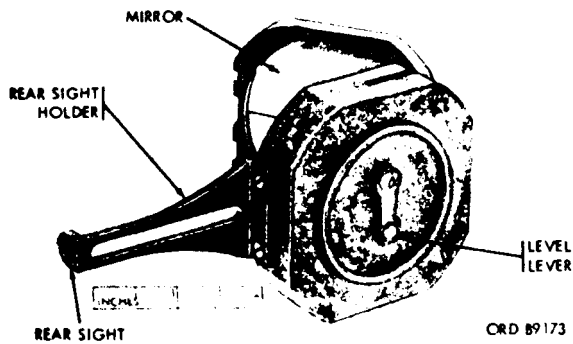

Figure 6. Compass M2-bottom view.
b. *Angle of Sight Mechanism and Related Parts.* Rotation of the level lever (fig. 6) causes the elevation level and elevation scale index to rotate as a unit. The index clamps against the bottom piece to prevent the mechanism from moving unless actuated by the level lever.
- (2) The rear sight (fig. 6) is hinged to a rear sight holder which in turn is hinged to a bracket. The bracket is secured to the body of the compass so as to permit folding the sight against the window inside the cover when the instrument is not in use.
e. Measuring Angle of Site. Hold the opened compass in a vertical plane with the rear sight (fig. 6) toward the body and the angle of site level lever to the right. Open the cover to an angle of approximately  $45^\circ$  to the face of the compass. Fold the rear sight holder out parallel to the face of the compass with the rear sight perpendicular to the holder. Look through the rear sight and raise or lower the instrument until the center line of the window bisects the opening in the rear sight and